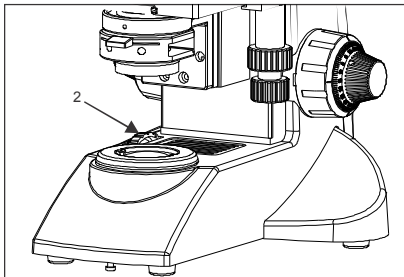

Fig. 20
2. Rotating the light intensity adjustment knob (Fig. 20) in the direction of the arrow increases brightness and rotating knob in the opposite direction decreases brightness. The intensity bar next to the knob indicates the direction of intensity level.